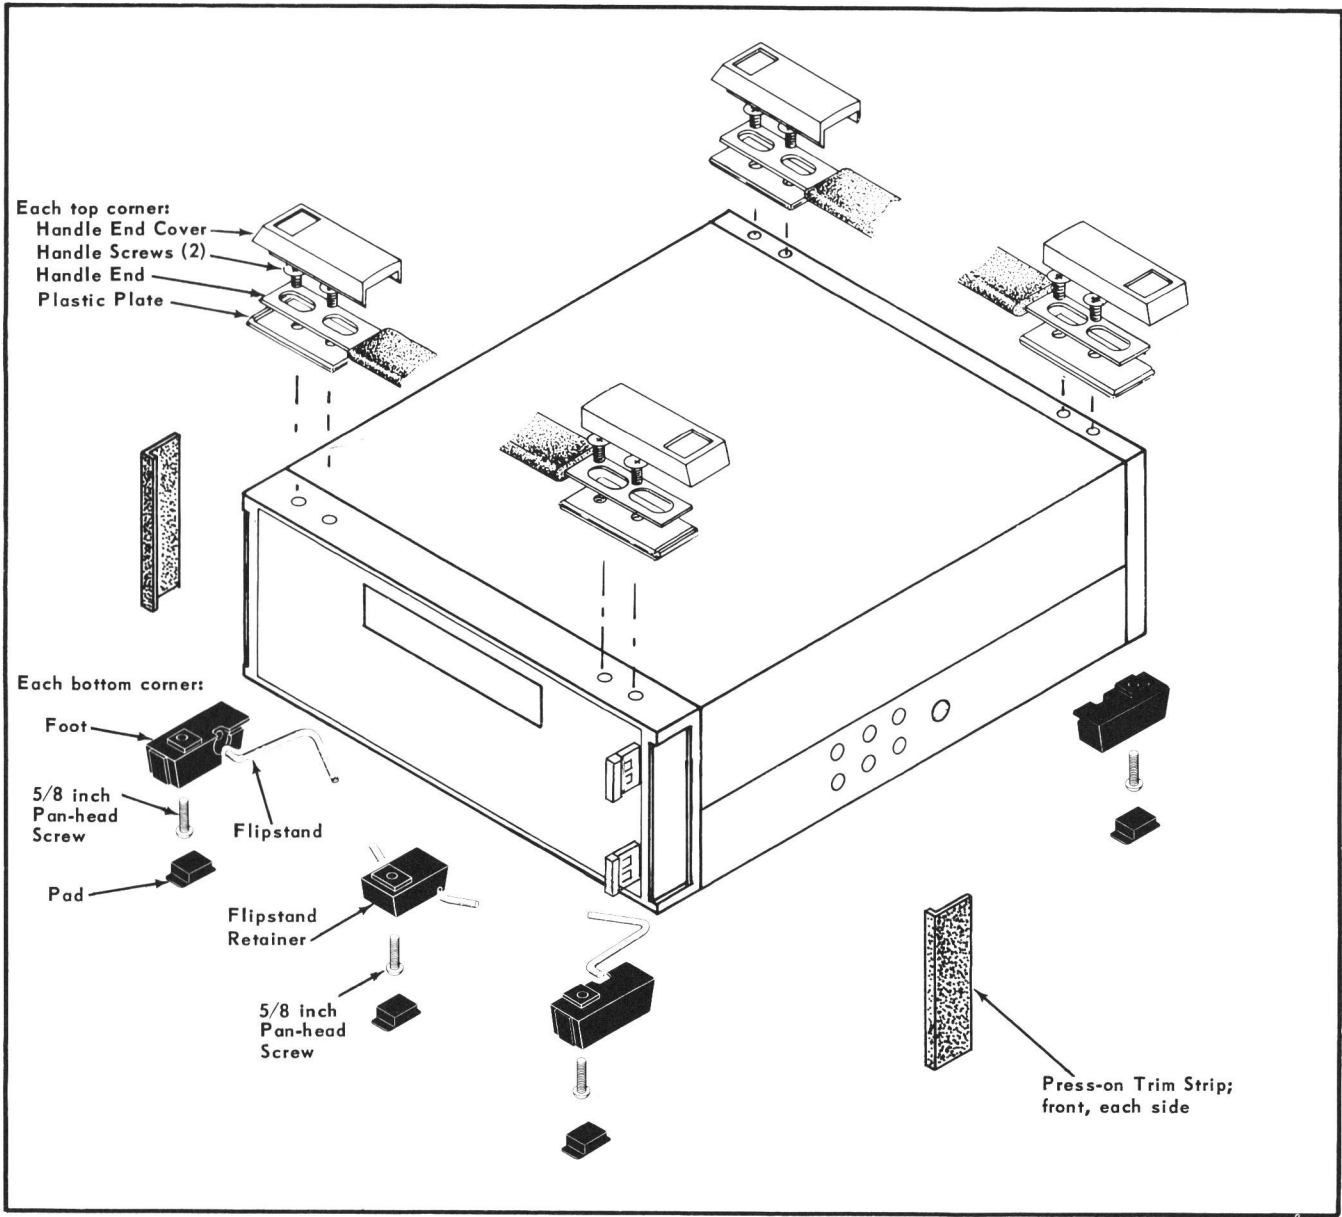

Fig. 8-2. Parts peculiar to the bench-mount instrument (Type 250).
The following parts must be added to complete the conversion to a bench-mount instrument. Locations are shown in Fig. 8-2.
1. Install the four feet, orienting them as shown in Fig. 8-2, then fully insert the four foot pads. Install the flipstand retainer, then spring the flipstand in place.
Parts peculiar to the bench-mount instrument (Type 250) must be removed from the Auxiliary Program Control Unit chassis before it can be re-converted to a Type R250. These parts are shown in Fig. 8-2 and can be removed as follows: